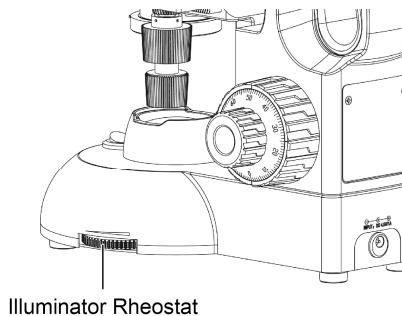

Fig.3
- Rotate the brightness control to the desired illumination. (Fig.3)